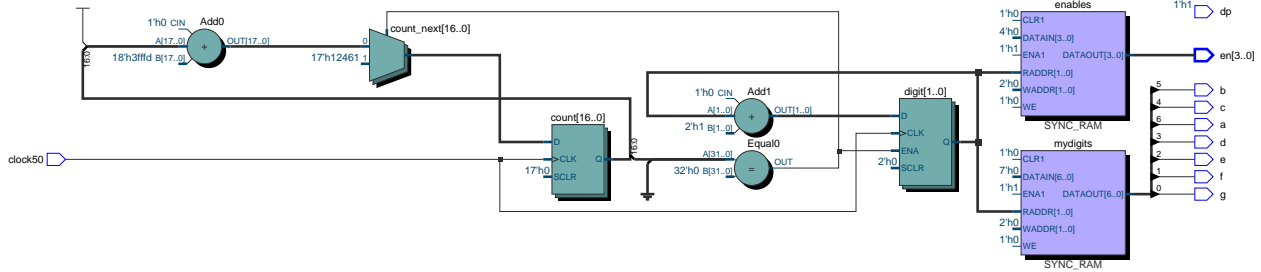

Figure 1: Example RTL Schematic for Lab 4.
2. The PDF file containing the schematic created by Tools > Netlist Viewers > RTL Viewer and then File > Export... . The file might look like Figure 1.